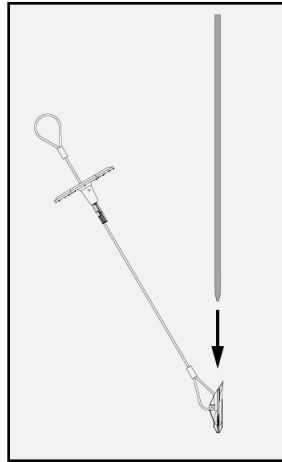
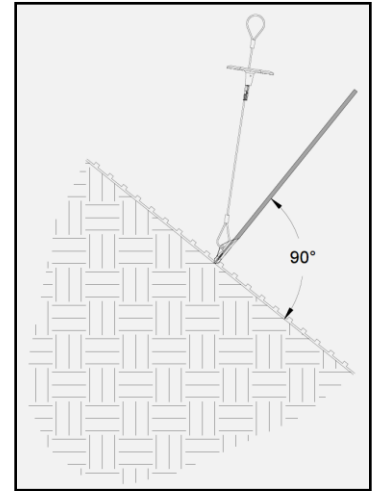

Figure 4: Insert Drive Steel into Anchor
Figure 5: Position Anchor Head / Drive Steel Tip
1. Insert the tapered end of the drive steel into the hollow cavity of the anchor head. Position the anchor head/ drive steel tip above the ground at the drive location, being careful to lay the cable tendon and load bearing plate (plate) off to the side. (Figure 4 and Figure 5)